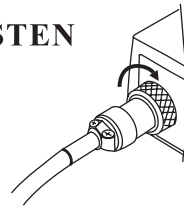

Figure 1B
2. TURN the ring of plug connector clockwise to lock microphone plug (See Figure 1B)